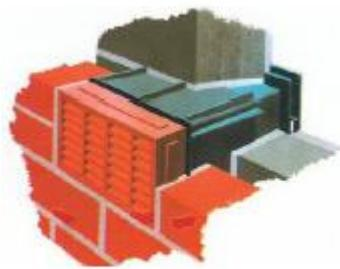

Figure 5[2]
- Blocking of the existing air vents, which could, but not limited to, be providing air for a natural gas appliance, see Figure 5[2]